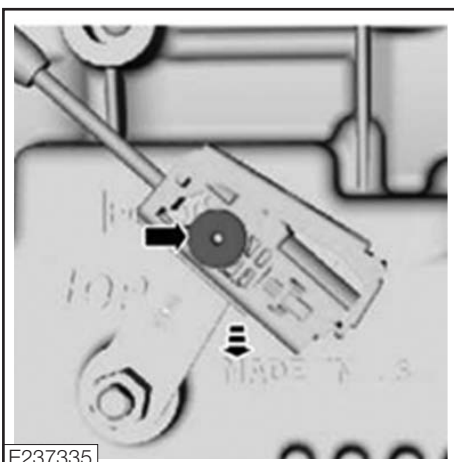

Figure 93
3. Disconnect the selector lever from the transmission manual lever (**Fig. 93**).